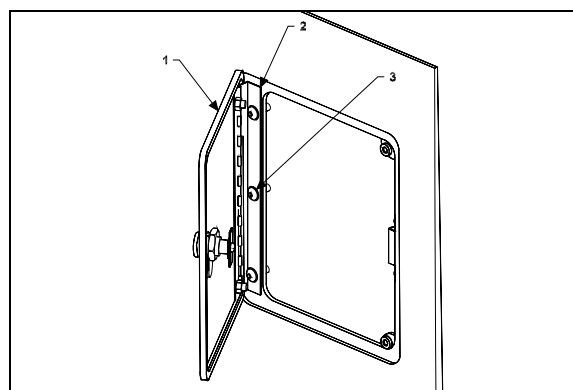

FIGURE 70: FUEL FILLER DOOR
2. Loosen the nuts (1, Fig. 70) holding the hinge (3, Fig. 70) to hinge attachment (4, Fig. 77). Loosening nuts (1, Fig. 70) allows the condenser assembly to be shifted "LEFT or RIGHT" and "UP or DOWN".
5. Loosen bracket nuts holding the panel to condenser. Panel (6, Fig. 70) may be shifted "IN or OUT", "LEFT or RIGHT" and "UP or DOWN".
6. Adjust condenser panel at brackets (2, Fig. 70) and (5, Fig. 70).